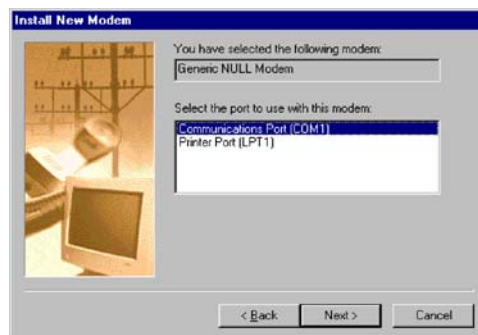

Figure 8 Next Install
13. Click **Next>** when ready (Figure 8).